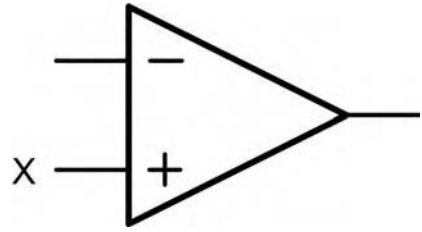

Figure 6.147
45. The terminal marked 'X' in Figure 6.147 is the: [B1, B2]